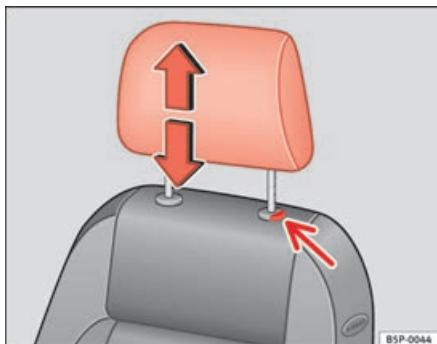

Fig. 74 Adjusting and removing the head restraints
- Press the button ⇒ fig. 74 (arrow).